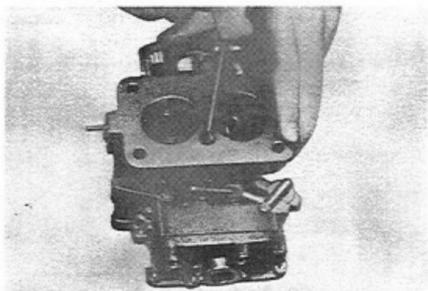

Fig. 5-71 Removing Retaining Screws 01910
h. Loosen and remove the two bolts on the carburetor body and the retaining screw on the flange, and separate the flange from the carburetor body. (Fig. 5.71).